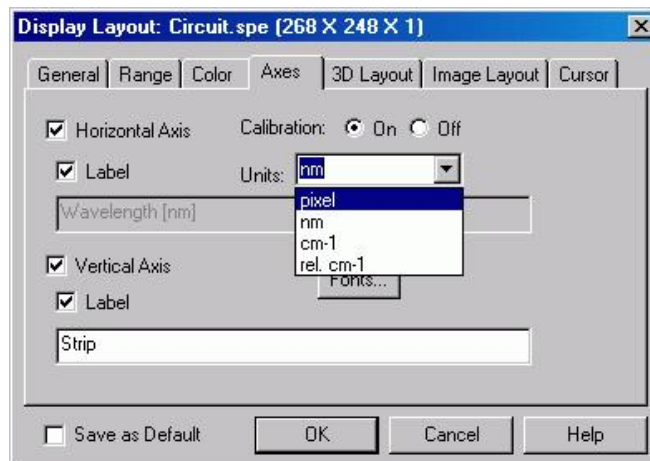

Figure 105. Axes tab page
1. Open the Display Layout dialog and open the Axes tab page (Figure 105). Note that Horizontal Axis, Vertical Axis, and the Label box for each are all checked (If unchecked, the corresponding axis or label would not be displayed.)